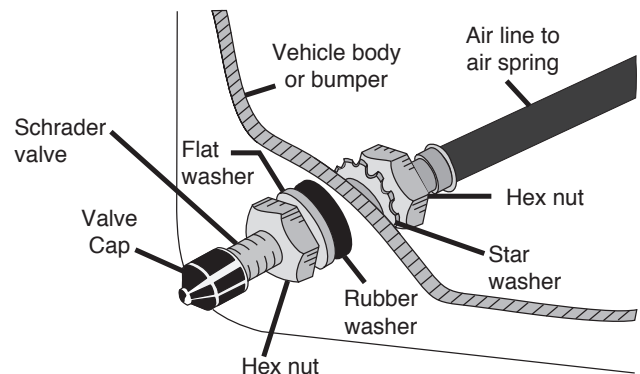

fig. 21
5. Push the inflation valve through the hole and use the rubber washer, flat washer and another 5/16" nut to secure it in place (Fig. 21). Tighten the nuts to secure the assembly.